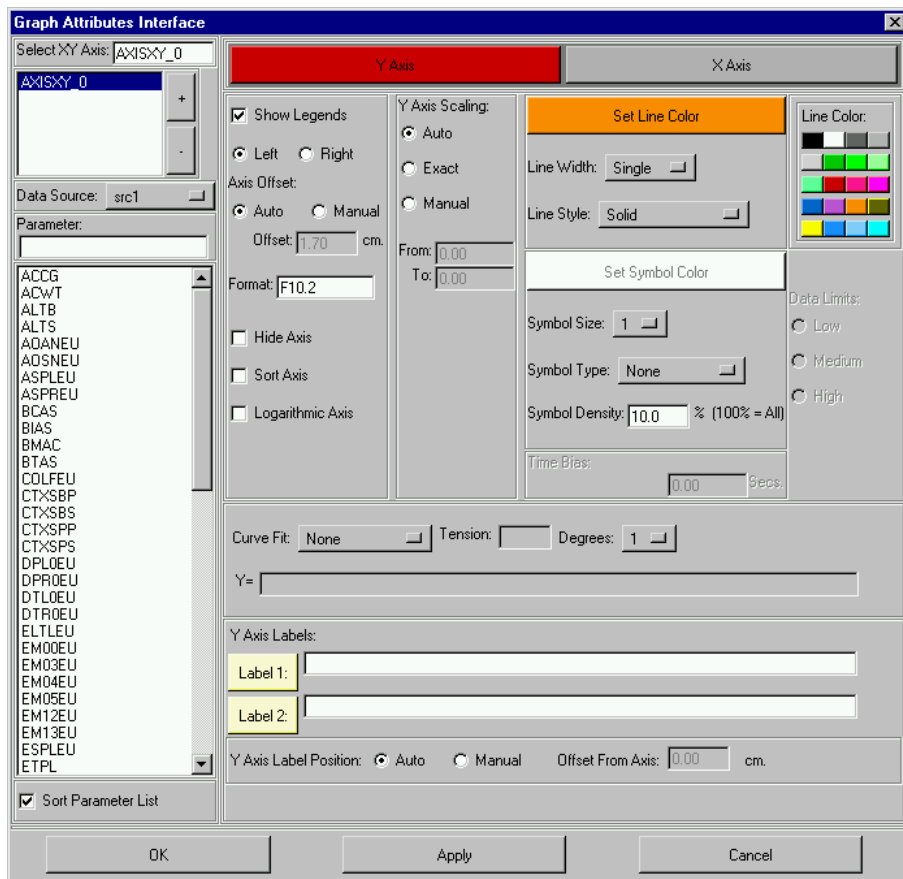

Figure 1-8 The Graph Attributes Interface dialog box.
Step 2 Double click inside the top graph object. The Graph Attributes Interface dialog box appears, as shown in Figure 1-8.